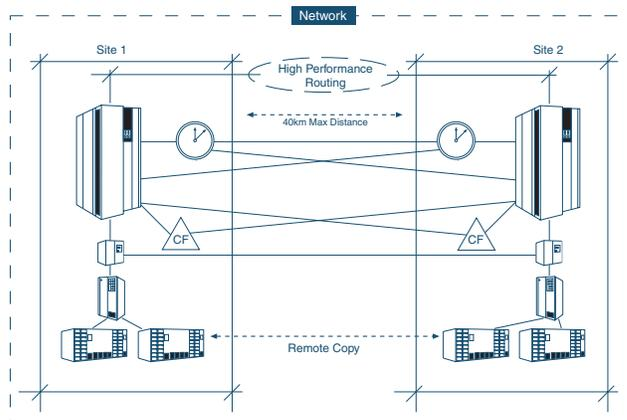

Figure 1: Geographically Dispersed Parallel Sysplex
As illustrated in Figure 1 on page 36: Geographically Dispersed Parallel Sysplex, GDPS consists of a base or Parallel Sysplex cluster spread across two sites (known as site 1 and site 2 in this paper) separated by up to 40 kilometers (km) – approximately 25 miles – with one or more OS/390 systems at each site. The multisite Parallel Sysplex cluster must be configured with redundant hardware (for example, a Coupling Facility (CF) and a Sysplex Timer® in each site) and the cross-site connections should be redundant. All critical data resident on storage subsystem(s) in site 1 (the primary copy of data) is